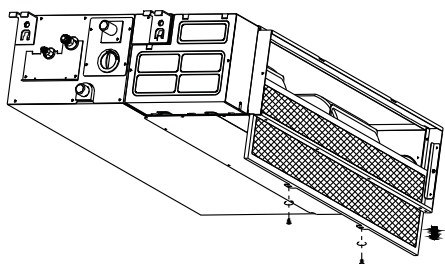

Fig.G1
1. For the unit is a rear ventilated one, please remove the screws (2 pieces) fixed on the filter and take down the filter away from the unit. See Fig.G1.